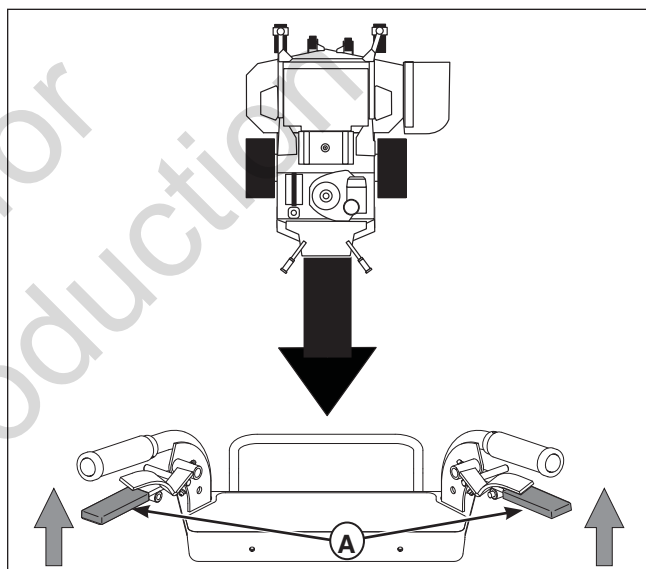

Figure 4. Reverse Travel.
TO MOVE BACKWARD (See Figure 4.)
2. Gently squeeze both reverse steering control levers (A, Figure 4) evenly, until desired speed is achieved.